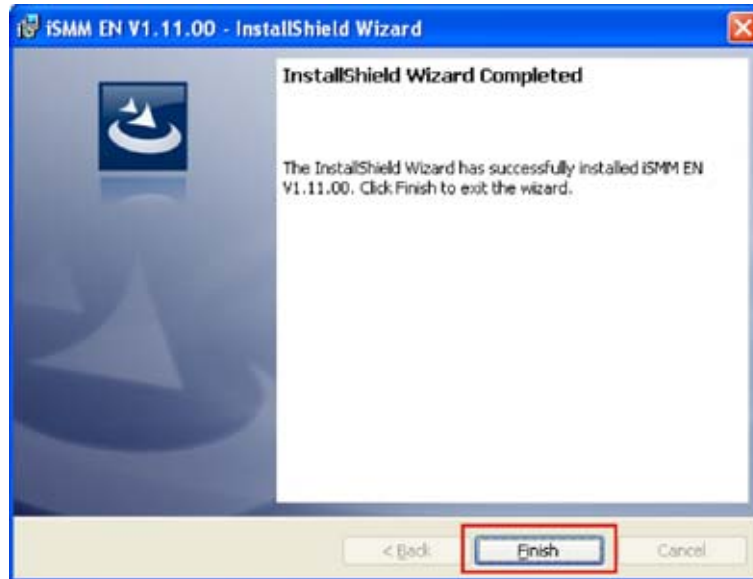

Figure 7-36: iSMM InstallShield Wizard Complete
Step 83: The InstallShield Wizard Completed appears when the drivers are finished installing. (Figure 7-36)
Step 84: Click **FINISH** to exit the installation program.(Figure 7-36)